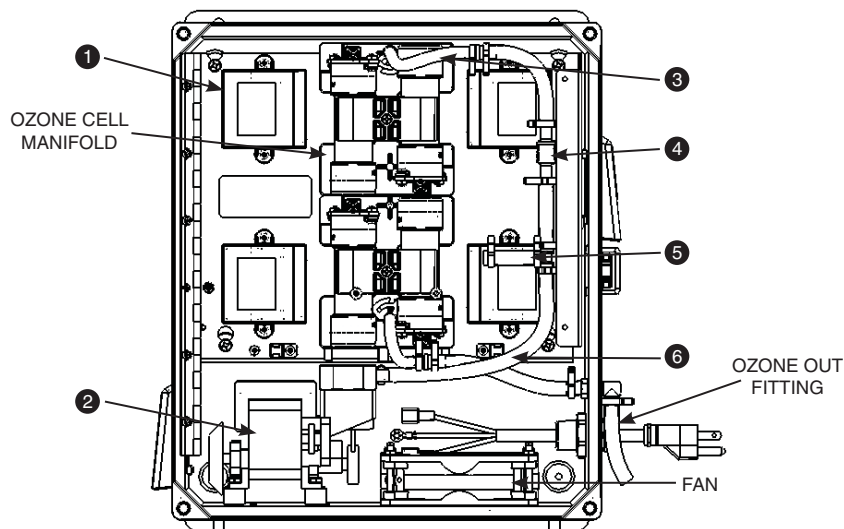

Figure 2: ZO-400 Internal View
c. To order replacement parts, refer to **Figure 2** for part numbers and descriptions.